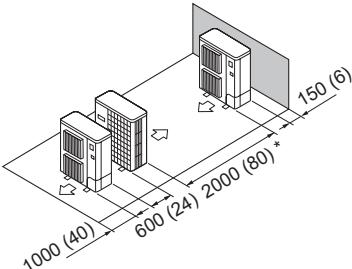

Fig. 2-16
(5) Single parallel unit arrangement (Fig. 2-16)